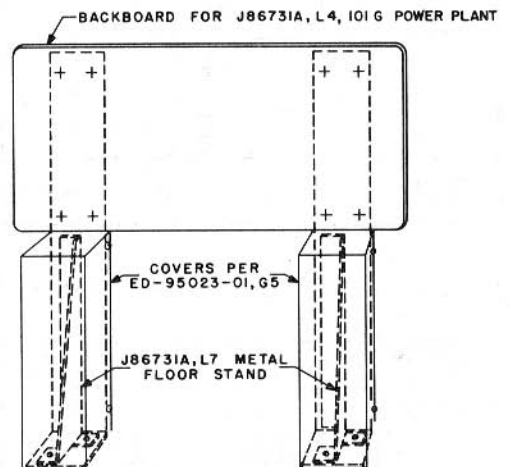

Fig. 5 — Floor Stand for J86731A, List 4, Power Plants
3.03 The J86731A, List 7 metal stand (see Fig. 5) consists of two metal legs and is used to floor-mount the J86731A, List 4 power plant, and where appearance is important, may be enclosed with the ED-95023-01, Group 5 cover.
J86731A List 7	Metal Stand for Floor Mounting J86731A, List 4 (See Fig. 5)